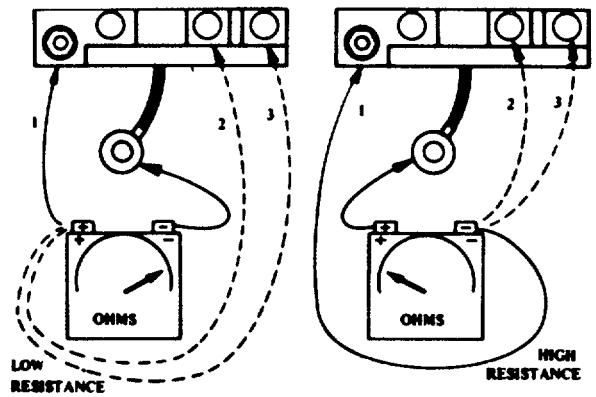

FIG. 17
1. Connect the negative lead of the tester to the output lead of the diode trio, and touch the positive tester lead to each of the three copper terminal pads (see Fig. 17). A low resistance should be indicated, and if a test lamp is being used, it should light.